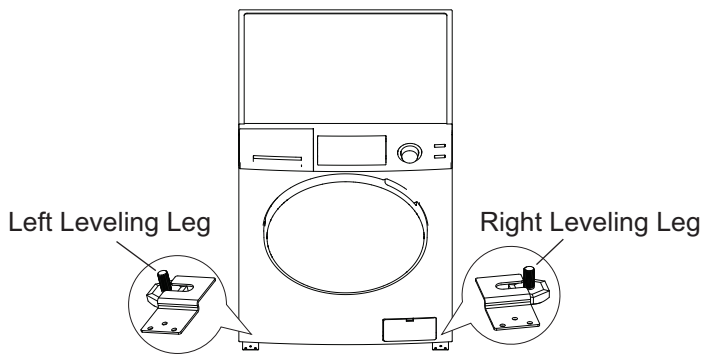

Fig. 6
2. Place the brackets around the front feet (Fig.6).